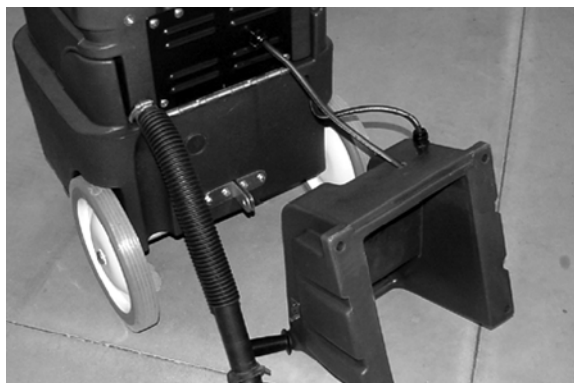

Fig. 1
2. Remove the old handle assembly from the tank housing (Figure 1).